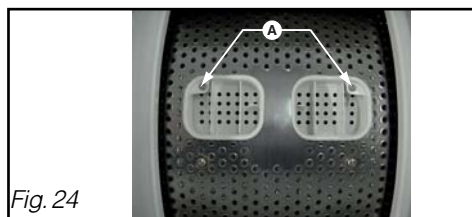

Fig. 24
- Unscrew and remove the 2 screws **A** (TORX T20 recesses), the vane falls into the drum. Take the precaution of placing a towel to cushion the fall (Fig. 24).